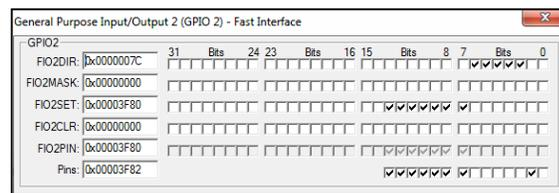

Fig. 12: GPIO Peripheral Window
3. To open the GPIO 2 analyzer (LED simulator), select Peripherals >> GPIO Fast Interface >> Port 2. A window will appear as shown in Fig. 12. Also open Port 1, i.e. Peripherals >> GPIO Fast Interface >> Port 1 (as the first 3 LEDs belong to Port1, last 5 belong to Port 2).